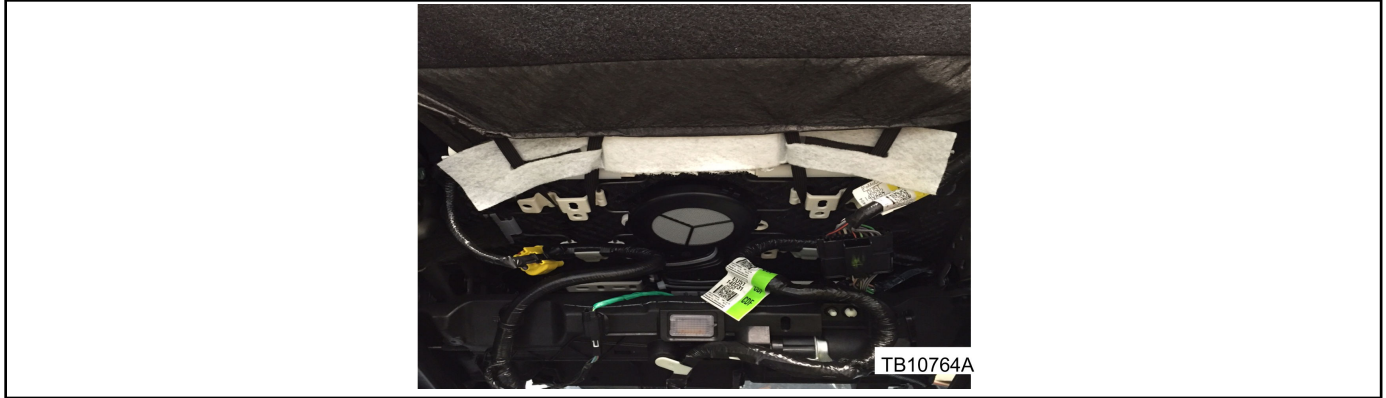

Figure 5 - Article 15-0154
- b. Route the elastic backrest cover straps through the slots in the fabric at the end of the air intake snorkel prior to refastening the elastic straps. (Figure 5)